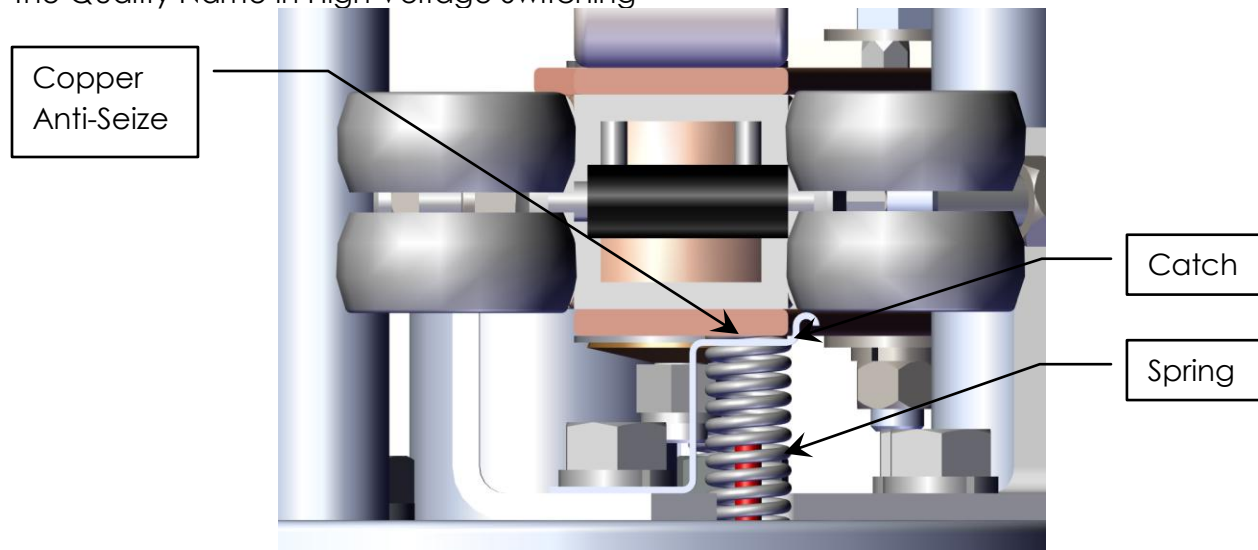

Figure 16: Left-Handed Blade Catch Position
- 7) The spring should be directly beneath the blade catch and the catch parallel to and fully engaged on the female blade in the open position. A slight over travel by the female blade is permissible. Ensure copper anti-seize lubricant is applied to where the catch and female blade contact. Figure 16 illustrates a left-handed switch blade. The catch is on the opposite side of the female blade on a right-handed switch blade.